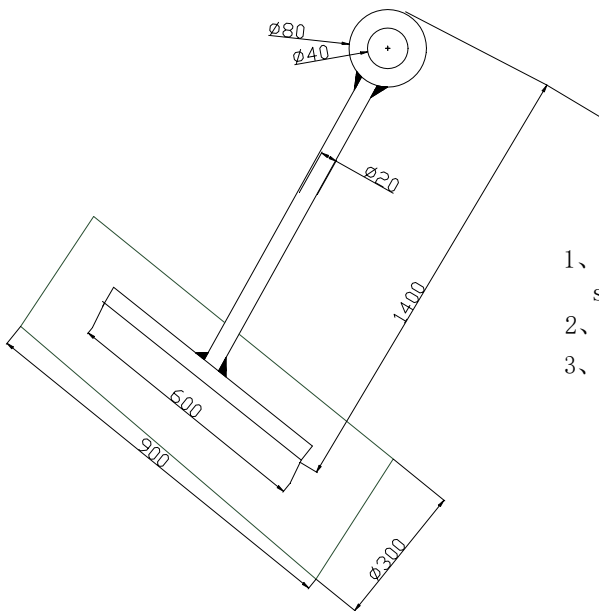

Figure2
4. The making and size of the upper tower is shown in figure 2. Its requirement: solid welding; no leak at the weld zone; the earth lug must be welded 20cm away from the ground (clearly visible). It will be connected to the lightning grounding device.
Figure 2 wind turbine flange connection in the top of tower